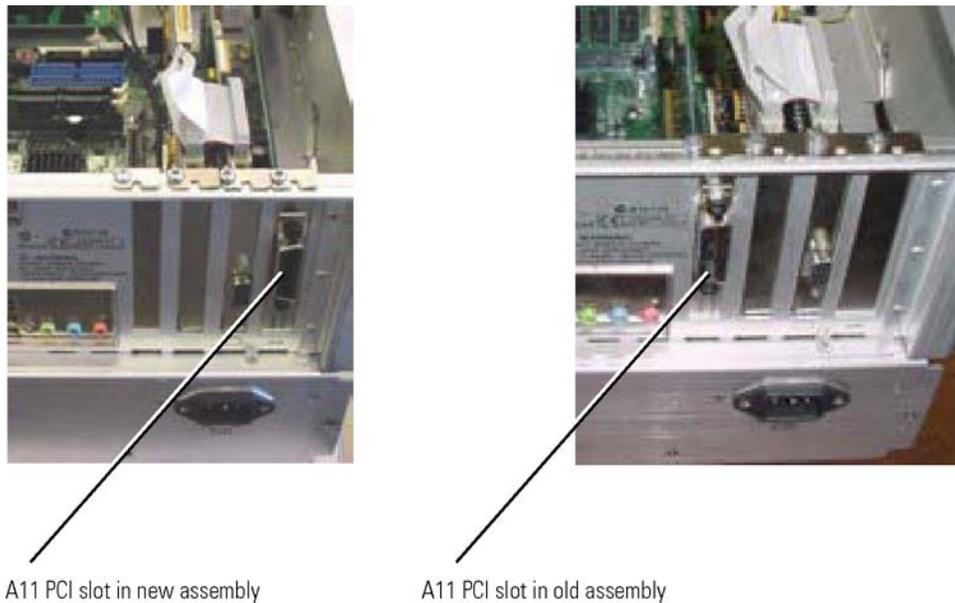

Figure 7-46. A11 Location in A4 Assembly PCI Slots
- 1 Install the A11 GPIB assembly into PCI slot 3 (right hand slot when viewed from the rear panel). There is no change to the A5/A6 assembly locations. The latest motherboards include three PCI slots and one unused AGP slot. (Older motherboards have four PCI slots.) When replacing an older motherboard with a new one, the A11 GPIB assembly must be moved to a different PCI slot position as shown Figure 7-46.